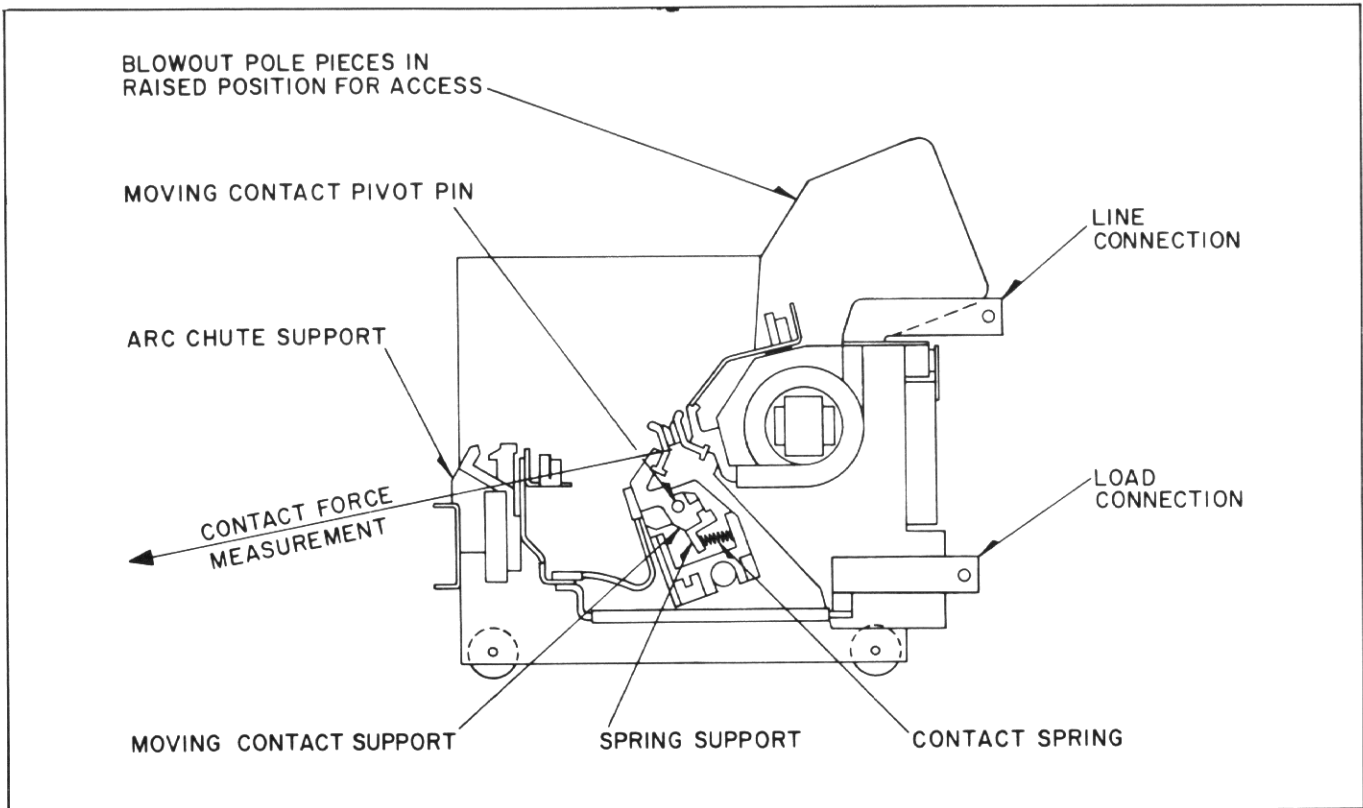

Fig. 8 Contact Force Measurement (Dwg. 3513C86)
3. Check initial contact forces. Contact forces measured at the heel of contact inlays as shown in Figure 8 are as follows:
To measure the initial force the armature should be blocked within .06"-.12" of the contact touch point. Force is then conveniently measured by looping a piece of string around the heel of the moving contact face and pulling in a direction perpendicular to the contact face as indicated in Figure 8. A small piece of cardboard or wood approximately 3" long should be suspended between the two strands of string to avoid interference with the arc chute support insulator.